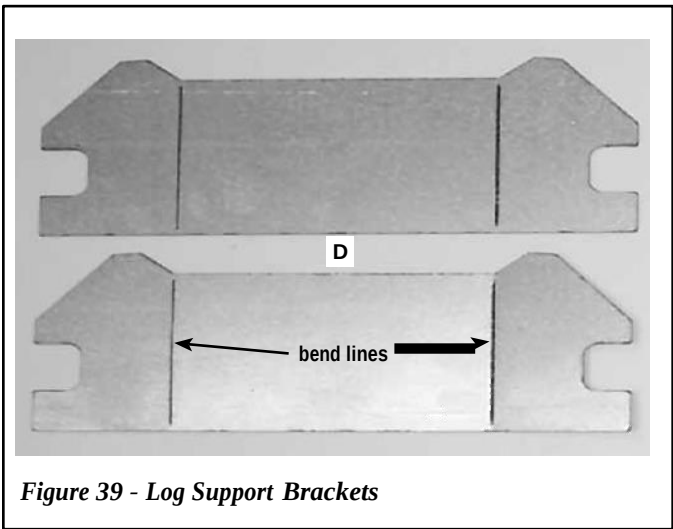

Figure 39 - Log Support Brackets
1. Remove the two log support brackets (D) from the box and bend the ends of the brackets 90 degrees at the bend lines. See **Figures 39 and 40**.